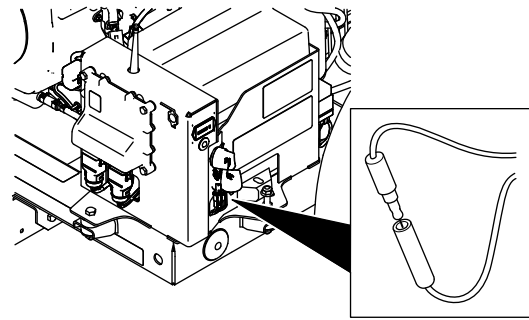

Figure 55
2. Remove the single-pin connector from the single-socket connector (Figure 55).
3. Plug the single-pin connector into the single-socket connector (Figure 55).